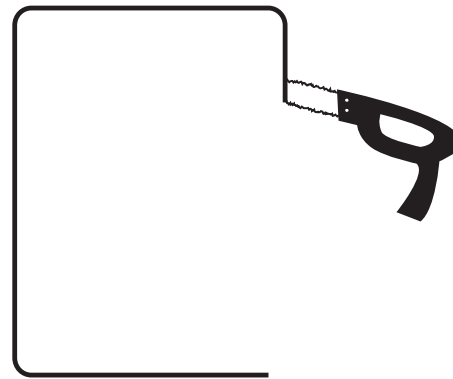

Figure 2
4. Carefully cut the hole with the appropriate cutting tool for your wall material. Start the hole by drilling a hole on the inside of the template line (with the drill bit touching the line). Use this hole to insert your saw or knife and begin cutting. [*Figure 2*]